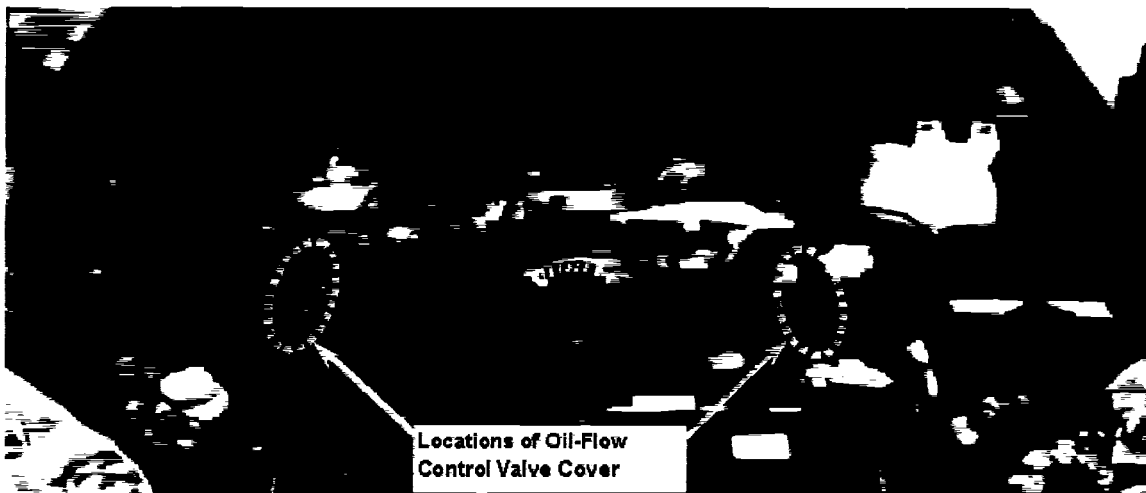

Fig.5: Locations of Oil-Flow Control Valve Covers
- 5) Overview of component locations (See Fig. 5 through 7):